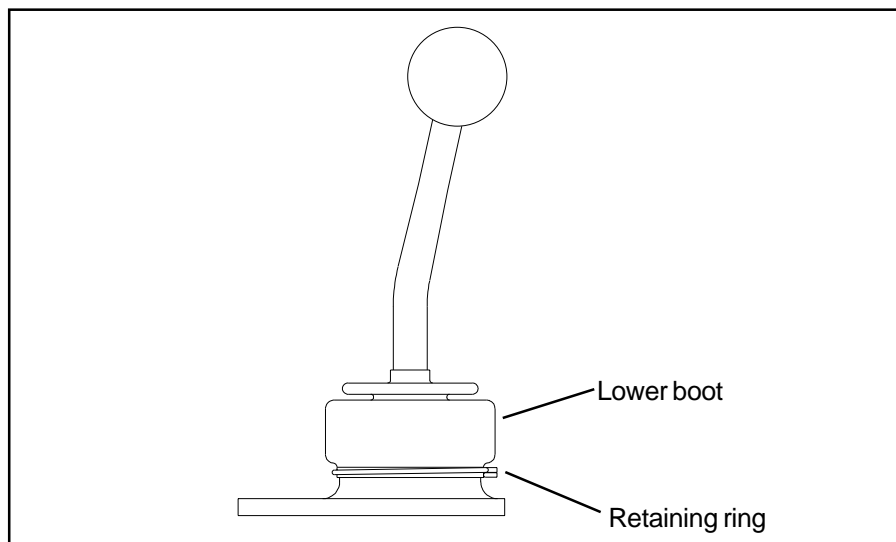

Figure 3
**Step 5.** Check the operation of the shifter. Install the new lower boot supplied with the **B&M Short Throw Shifter**. First put the retaining ring around the bottom of the shifter, below the stop screw holes. Then install the boot over the shifter. Squeeze the retaining ring with your fingers and put it around the lower part of the boot. (See **Figure 3**.) This lower boot must be used to keep dirt and water out of the shifter mechanism.